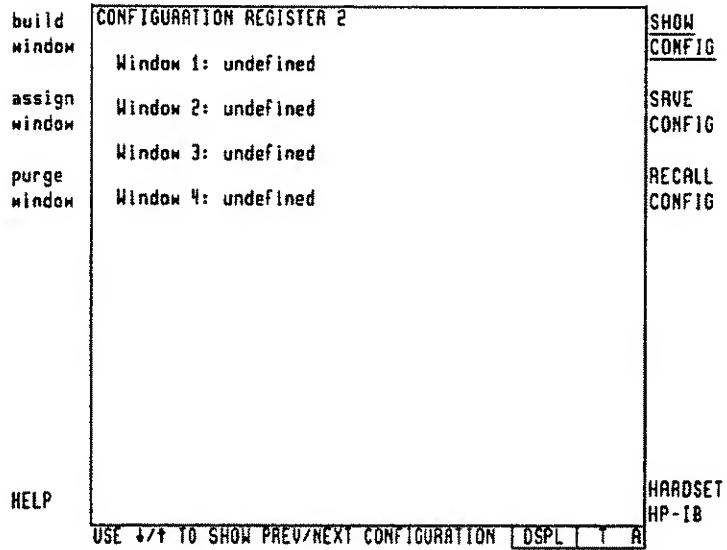

Figure 2-37. Configuration Register #4
5. Press the **↑** key three more times to view Configuration Registers 2, 3, and 4. See Figure 2-37.